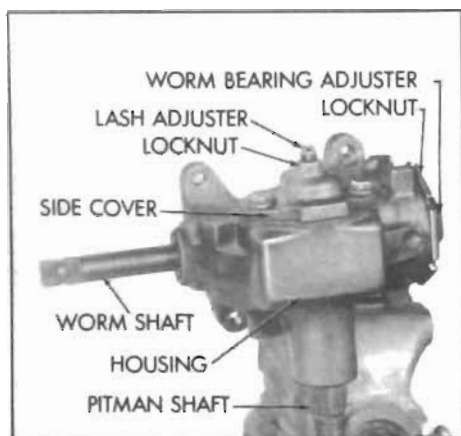

Figure 8-3—Manual Steering Gear Adjusters
There are two adjustments on the steering gear: worm bearing preload, and pitman shaft overcenter preload. See Figure 8-3.
7. Adjust Worm Bearing Preload. Loosen worm bearing adjuster lock nut using a drift. See Figure 8-3. Turn bearing adjuster as required to bring pull between 2 and 7 inch pounds. Tighten lock nut, then recheck preload.
2. Place steering gear in a soft jaw vise. See Figure 8-3. Do not